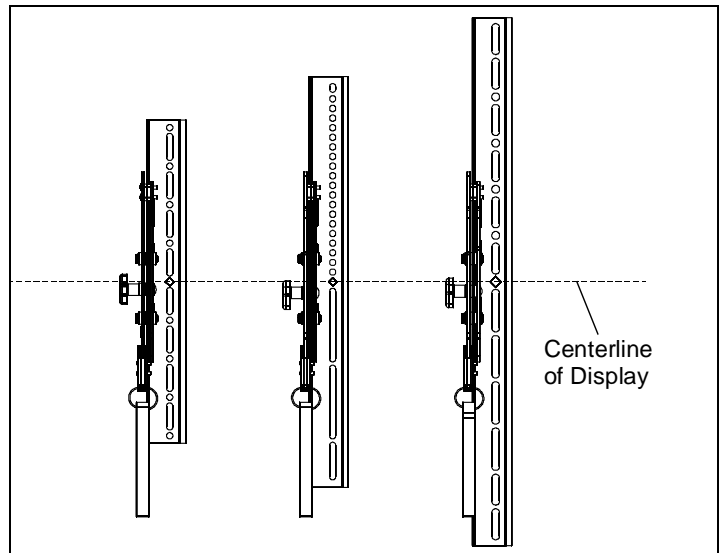

Figure 2
1. Attach interface brackets to back of display using the provided hardware, and noting where the centerline of display should be located against the interface bracket. (See Figure 2)